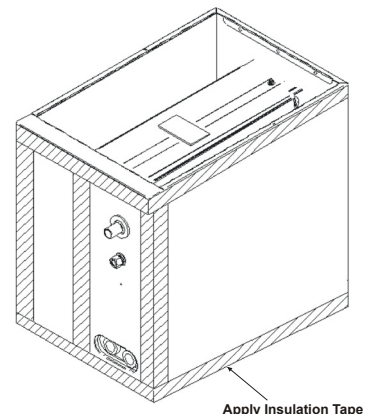

Figure 7
**IMPORTANT NOTE:** To prevent cabinet sweating and airflow leak, apply field provided insulation tape along all joining surfaces between the coil, gas furnace, duct work and panels. See Figure 7.